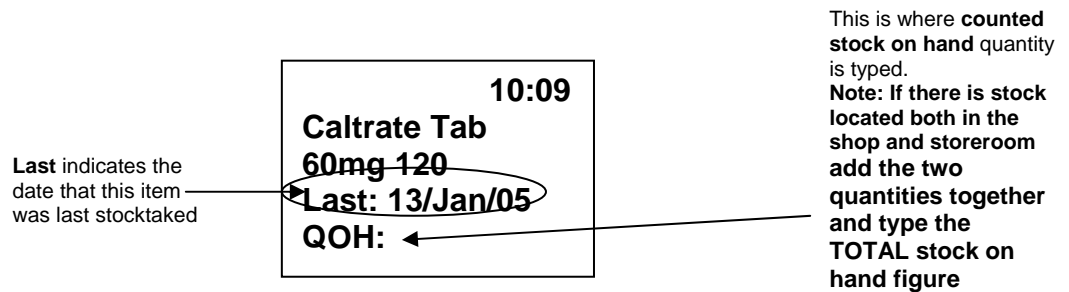

Figure 19: Item that has been scanned in the stocktake menu
- Count the stock on hand for this item, refer to Figure 19